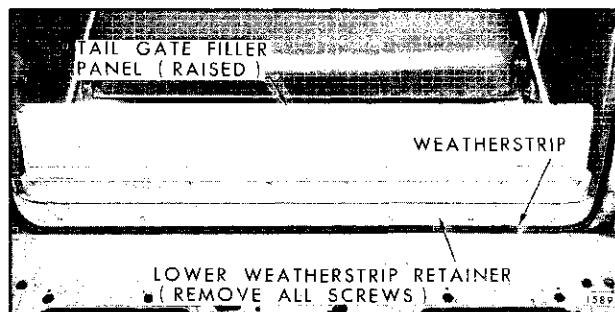

Fig. 9-22—Tail Gate Weatherstrip Retention — "B" Body Styles
- Open tail gate and remove fasteners and/or screws securing weatherstrip to right and left body pillars (at belt). On "B" styles, remove screws securing lower weatherstrip retainer to rear body cross bar (See Fig. 9-22).